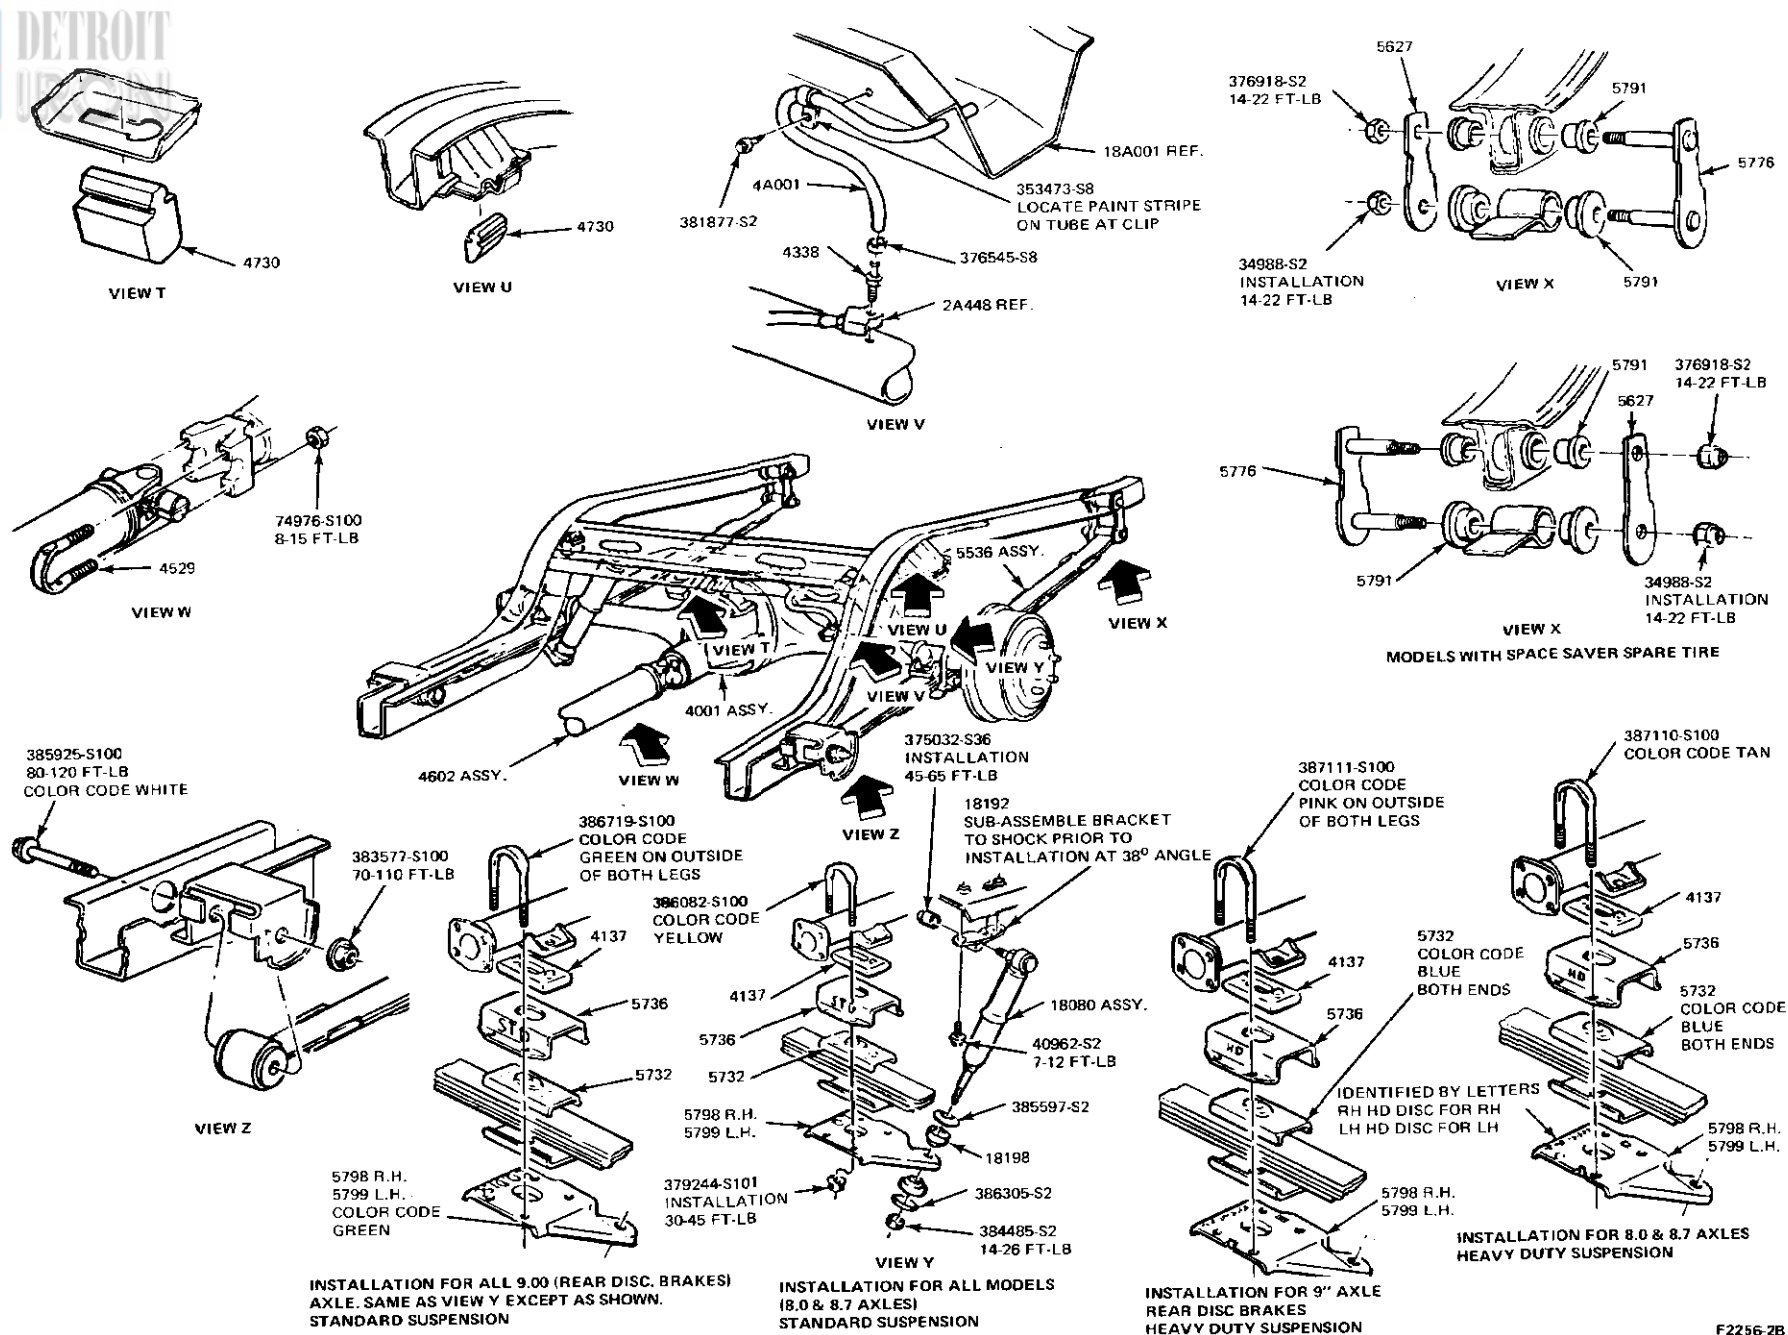

FIG. 1 Rear Suspension—Versailles
2. Remove the nut that fastens the upper end of the shock absorber to the mounting bracket (Figs. 1 and 2).
3. Remove the U-bolt plate nuts from the "U" bolts; then, remove the plate (Figs. 1 thru 5). Raise the rear axle just enough to remove the weight from the spring.
The rear axle housing is suspended from the frame by upper and lower arms and a shock absorber at each side of the vehicle. LTD II, Cougar, Thunderbird, and Continental Mark V vehicles are equipped with four arms (two upper and two lower) (Fig. 1), as are the Fairmont and Zephyr cars, (Fig. 3). Ford, Mercury, and Lincoln Continental units (Fig. 2) are equipped with three arms (one upper and two lower) and a track bar. These arms pivot in the frame members and rear axle housing brackets.